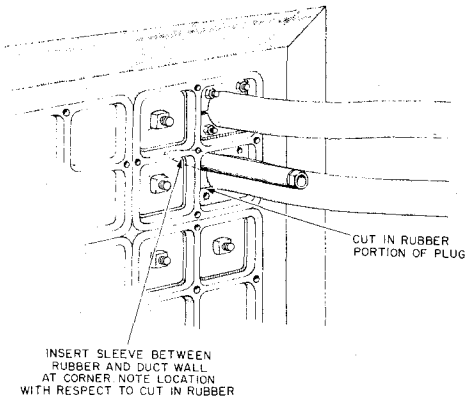

Fig. 7—Inserting Remover Sleeve
- (1) Insert the tongue of the sleeve between the rubber and the duct wall at the hole in the free end of the rubber near the cut as it appears in the face of the plug. See Fig. 7.